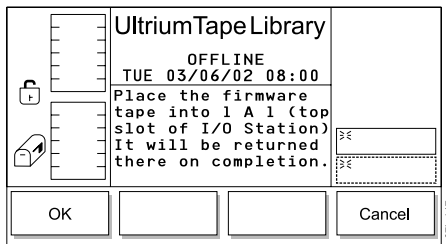

Figure 372. Firmware Update Dialog
3. Press the button below the **Firmware Update** softkey. The Firmware Update Dialog displays (see Figure 372).